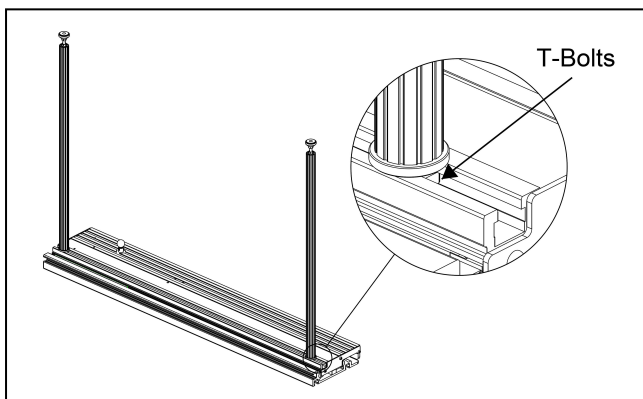

Fig.10
2. Turn the sliding table upside down, slide the support leg T-Bolts into the sliding table T-slot (**Fig.10**), then hand-tighten the legs clockwise to secure them in place.
Note: For the best support, position the support legs near the ends of the sliding table, as shown in Fig10.